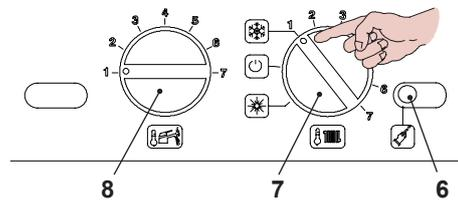

Figure 15.21
- Position the handles 8 and 7 indicated in Figure 15.21.
- Press the reset button 6, in Figure 15.21, to scroll the various parameters until reaching the valid parameter **P15** for setting the K coefficient; the following will appear on the LCD display (the sequence **P15** alternates with **00**).
- Set the value by turning knob 8 in Figure 15.21 from a minimum of **30** (the sequence **P15** alternates with **30**)